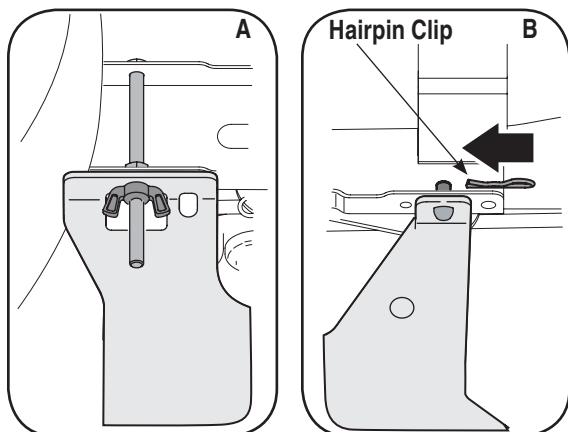

Figure 22
3. Lift the undercarriage assembly up, inserting the weld pins on the assembly up through the aligning holes found along the tractor's frame rails. Fasten with hairpin clips and flat washers removed earlier. See B in Figure 22.
The rear hole on the right side will fit over the stud already installed on your tractor. Fasten with the wing nut (included with your hardware pack) and flat washer removed earlier. See A in Figure 22.